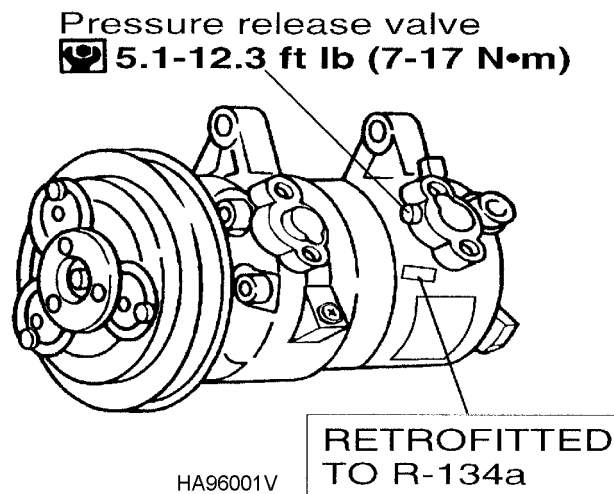

Figure 3
33. Affix the "Retrofitted to R-134a" label to the compressor in a visible location as shown in Figure 3.